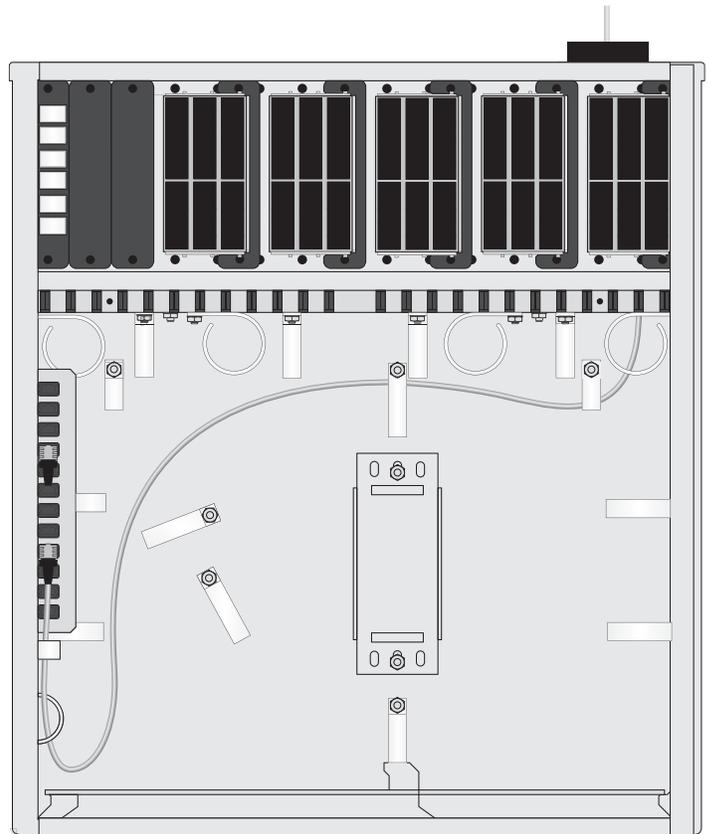

Figure 12
9. Use the fiber management rings to route the MPO distribution cable through the back side of the 144F IDC. (Figure 12)